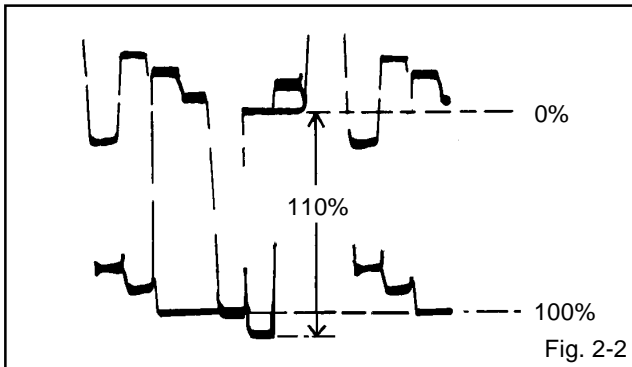

Fig. 2-2
7. Press the VOL. UP/DOWN button on the remote control until the red color level is adjusted to 110% of the white level. (Refer to **Fig. 2-2**)